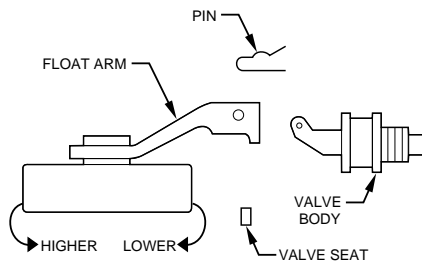

Fig. 11 — Float Arm Removal
The Model HUMCCWTR is controlled by a float valve. Turning off the furnace will not affect the water flow until float level is achieved. (See Fig. 11.)
6. Inspect the float assembly. Remove the float arm from the valve body by sliding out the pin and lifting off the float arm. (See Fig. 11.) Inspect the rubber valve seat located inside the float arm. If the seat appears to be nicked or worn, invert the seat or replace it with the spare valve seat located on the float arm. Inspect the water opening in the valve body. If the opening is clogged, use a pin to remove the obstruction. Remove any accumulated deposits from the valve body and float arm.